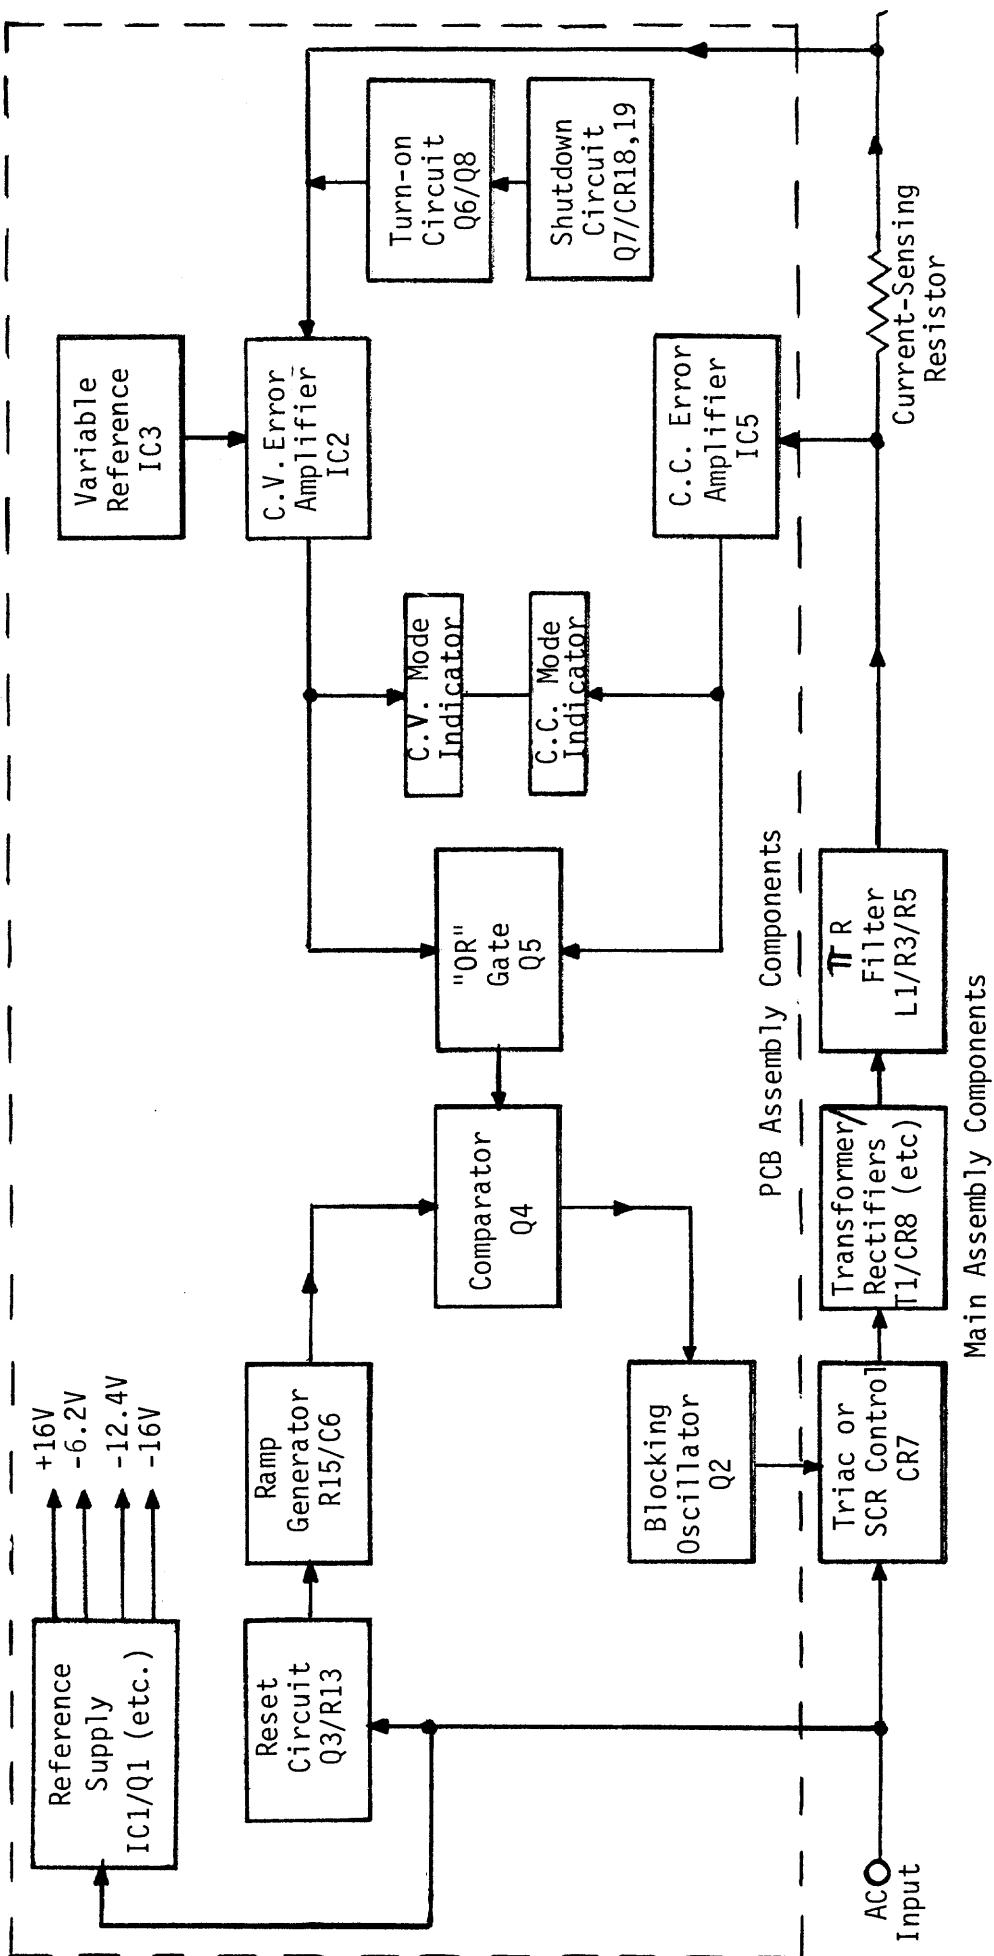

Figure 4-2
4.3 BLOCK-DIAGRAM ANALYSIS (Figure 4-2)